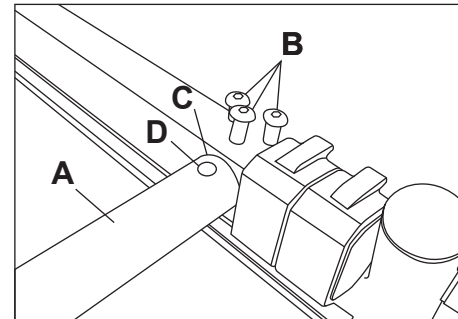
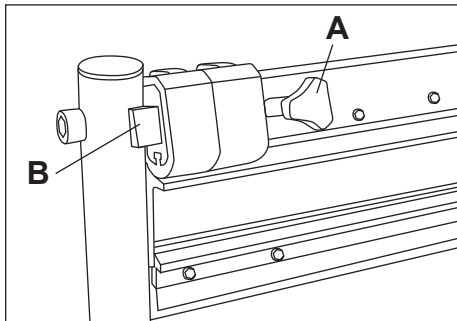

FIGURE 2
FIGURE 3
2. Attach the handle (Fig. 2 - A) to the top of the blade assembly by loosening the three fixing screws (Fig. 2 - B) with a hex key. Insert the handle shaft into the cylindrical hole (Fig. 2 - C), making sure the recessed hole in the handle shaft (Fig. 3 - D) lines up with the center screw on the blade assembly. Once properly aligned, secure the handle by tightening the center screw with a hex key. Then, tighten the remaining two screws.
1. The laminate flooring cutter is shipped with the blade assembly in the down and locked position. This safety feature ensures that the cutting edge of the blade is not exposed during transport or storage. To unlock the blade assembly, loosen the safety lock knob (Fig. 3-A), depress the handle then slide the lock knob to the right to disengage the lock (Fig. 3-B).